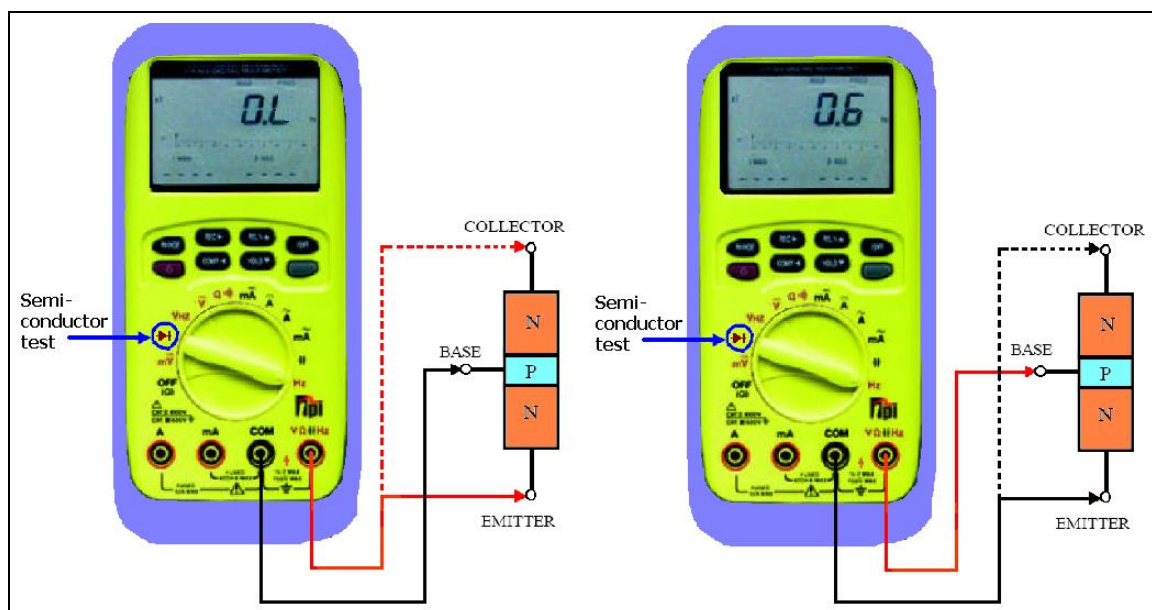

Fig. 3.2-8 NPN Transistor Testing
1. Connect the meter leads with the polarity, as shown in Fig. 3.2-8 and verify that the base-to-emitter and base-to collector junctions read as a forward biased diode: 0.5 to 0.8 VDC.
2. Reverse the meter terminals to the transistor and check both PN junctions for (OL) reading.